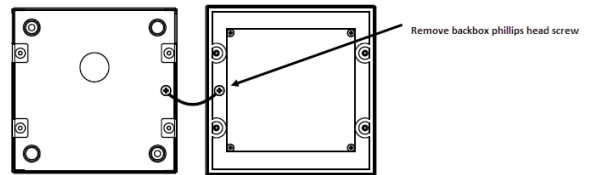

Figure 3. Remove backbox ground wire screw
4. Refer to the backbox shown in Figure 3 and remove the 3 x 12 mm Phillips head screw releasing the ground cable from the back box; (the ground cable will remain on the faceplate).